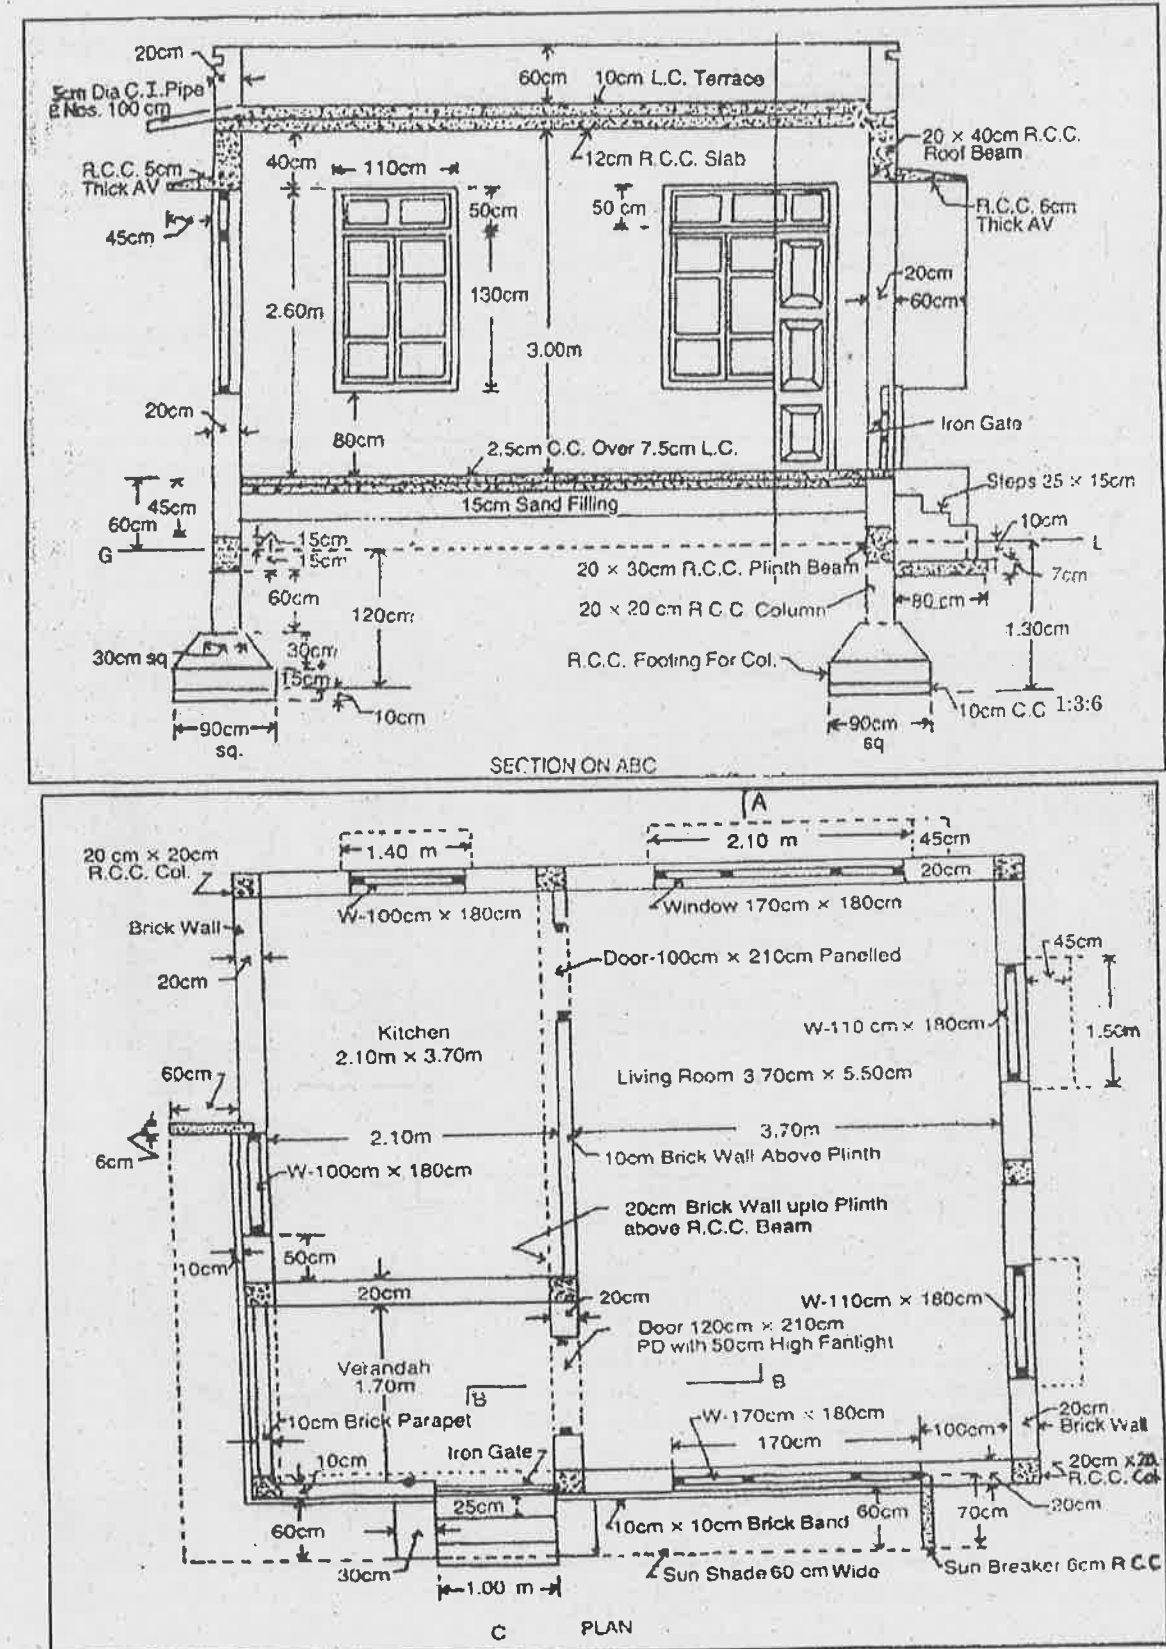

Fig. 11(b)
11. (a) Estimate the quantities of the following items of work of the building. The plan and sectional elevation of a building are given in Fig. 11(a).
- (i) 1st class brick work in 1:6 cm in superstructure including parapet. (5)
- (ii) 12 mm thick cement plastering 1:6 in walls. (5)
- (iii) White washing 3 coats inside. (3)
- (iv) Steel reinforcement bars in R.C.C at 1%. (3)
(b) Prepare a detailed estimate of a small R.C.C. framed building from the given plan, and sectional elevation Fig 11(b). Find also the plinth area rate of building. The general specifications are as follows :